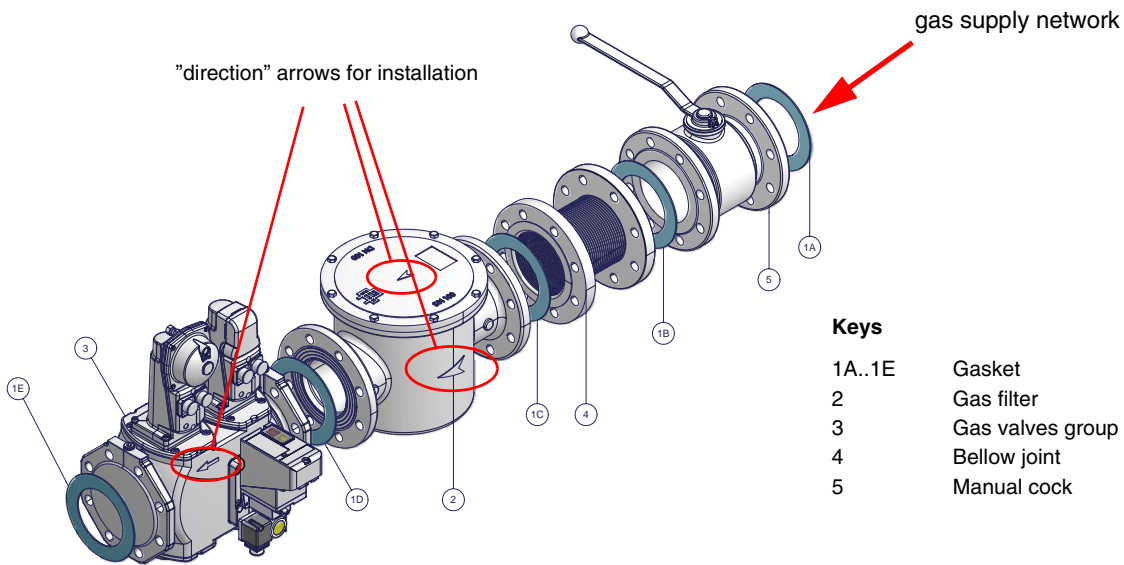

Fig. 3 - Example of gas train
- 1-b) in case of flanged joints: place a gasket (no. 1A..1E - Fig. 3) between the elements
ATTENTION: once the gas train is mounted according to the diagram on Fig. 3, the gas proving test must be performed, according to the procedure set by the laws in force.
**⚠ ATTENTION:** once the gas train is mounted according to the diagram on Fig. 3, the gas proving test must be performed, according to the procedure set by the laws in force.